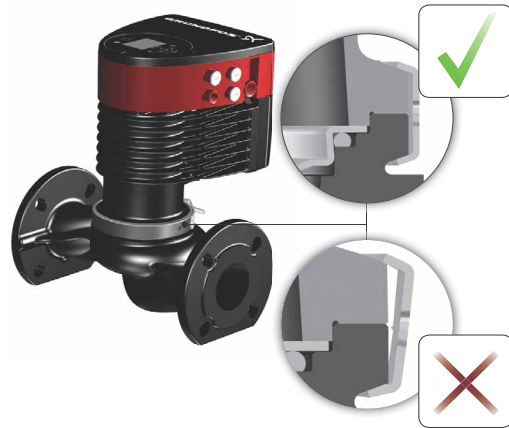

Fig. 13 Fitting the pump head to the pump housing
3. Make sure that the contact face of the pump housing and that of the pump head are in contact before you tighten the clamp. See fig. 13.
Check the position of the clamp before you tighten it. Incorrect position of the clamp will cause leakage from the pump and damage the hydraulic parts in the pump head. See fig. 13.
As an alternative to insulating shells, you can insulate the pump housing and pipes as illustrated in fig. 13.